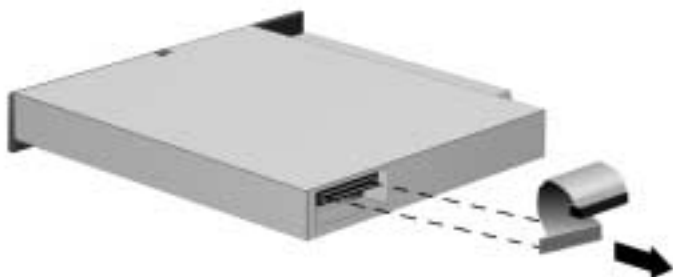

Figure 5-9. *Removing the CD-ROM Drive Cable*
7. If necessary, disconnect the CD-ROM drive cable from the CD-ROM drive (Figure 5-9).